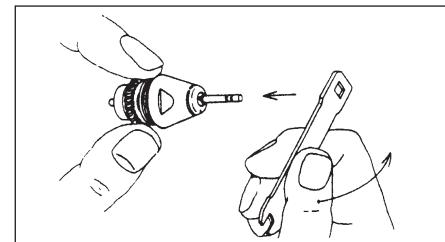

Fig.11
- Hold the rotor with two fingers as shown on the Fig.11. Mount the wrench provided on the rotor nut located on the top of rotor shaft and turn counterclockwise. (Either side of wrench can be used.)